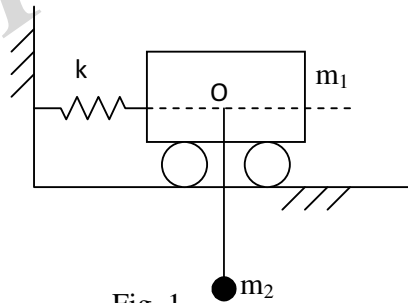

Fig. 1
3. For the system shown in Fig. 1, assuming small displacement in the plane of the paper,